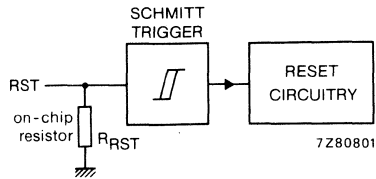

Fig. 12 On chip reset configuration.
**Reset circuitry** (see Fig. 12)